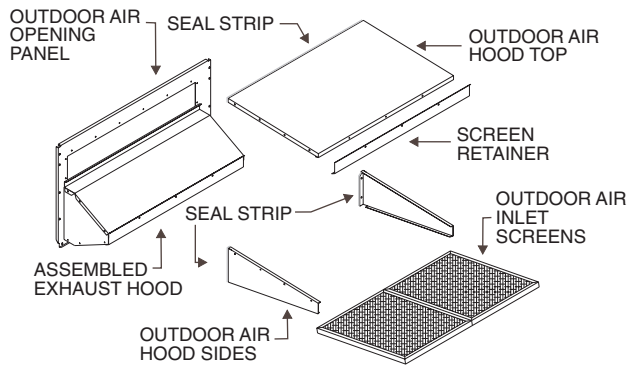
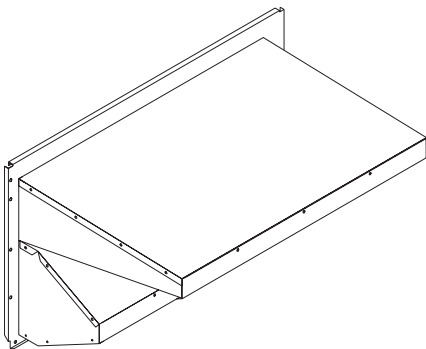

Fig. 31 — Outdoor Air Hood Assembly
Fig. 32 — Completed Hood Assembly
4. Install the 3 mm x 22 mm ($\frac{1}{8}$ x $\frac{7}{8}$ -in.) seal strip on the outdoor air hood top and side panels. Assemble the outdoor air hood to the outdoor air opening panel as shown in Fig. 31, using the screws provided. *Do not attach completed hood (Fig. 32) assembly to the unit at this time.*